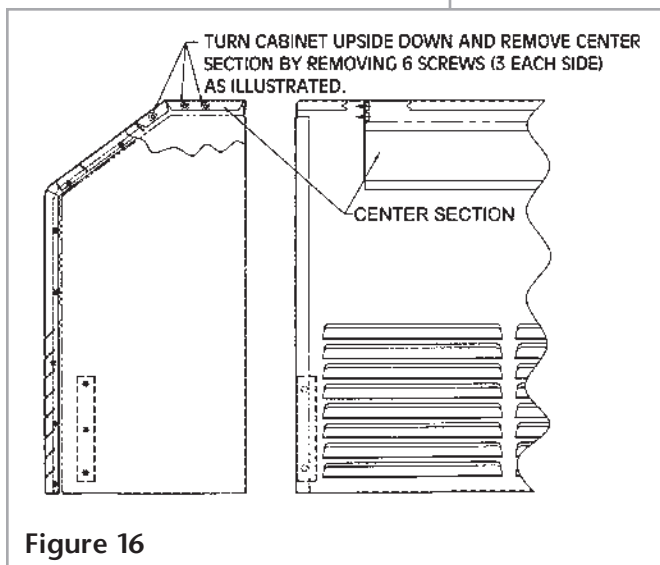
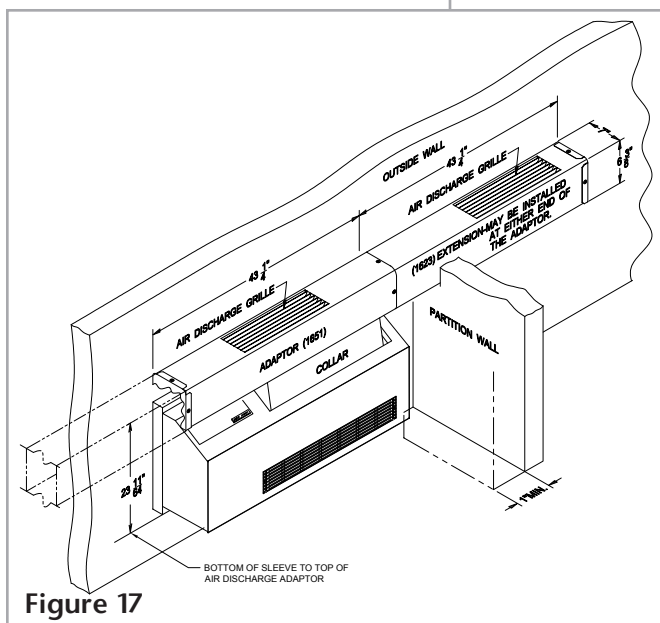

Figure 16
Figure 17
2. Slide collar into position under the adaptor and secure with the two (2) screws provided. (See **Figure 17**.)
3. If the required air flow direction is to the left, remove the end cap and three (3) tinnermans from the left end of the adaptor. Reinstall end cap and tinnermans to the right end of the adaptor.
4. Remove the center section from the cabinet front assembly. (See **Figure 16**.) **If the center section is not removed, you will be unable to open the cabinet front once the collar and adaptor are installed. Discard center section.**
5. Remove the discharge air grille from the unit. **Retain the two (2) screws.**
8. Remove adaptor and collar assembly from unit. At the two (2) locations marked on the adaptor in Step #7, drill a 7/64"-diameter hole (2 places).
9. Install adaptor and collar assembly on unit as illustrated and secure with the two (2) screws retained in **Step #5**. Also, secure the adaptor to the adaptor brackets with the screws provided.
3. Slide collar into position under the adaptor and secure with the two screws provided. (See Figure 17.)
5. Remove the center section from the cabinet front assembly. (See Figure 16.) **If the center section is not removed, you will be unable to open the cabinet front once the collar and adaptor are installed. Discard center section.**
6. Remove the discharge grille from the unit. **Retain the two (2) screws.**
10. Install adaptor and collar assembly on unit as illustrated and secure with the two (2) screws retained in **Step #6**. Also, secure the adaptor to the adaptor brackets with the screws provided.